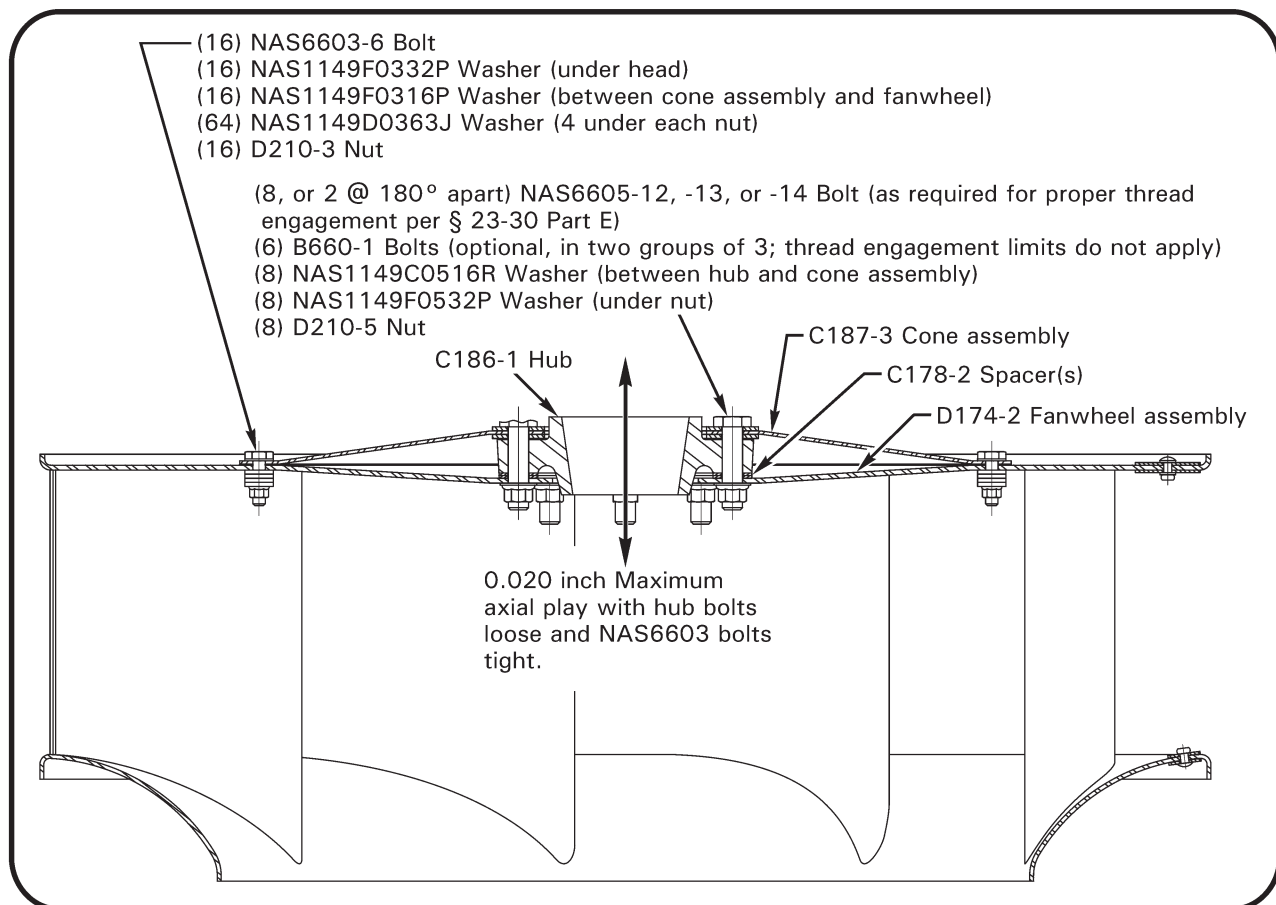

FIGURE 2-19 D174-2 FANWHEEL ASSEMBLY
3. Refer to Figure 2-19. Loosen bolts securing C187-3 cone assembly and C186-1 hub to fanwheel. Verify hub axial play does not exceed 0.020 inch with hub bolts loose and NAS6603 bolts tight.